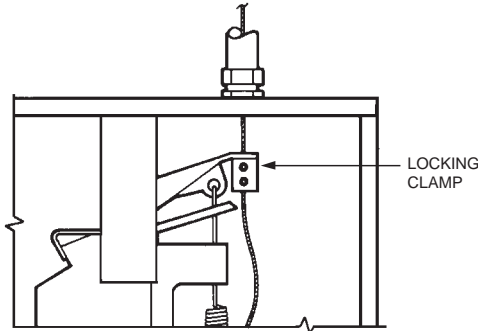

FIGURE 5-24
- Starting at the release assembly, feed the wire rope through the hole in the release mechanism locking clamp, allowing the excess wire rope to hang down. (Do not tighten set screws in locking clamp at this time.) See Figure 5-24.